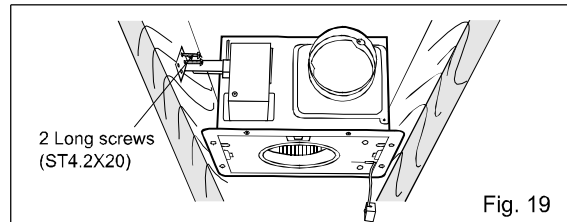
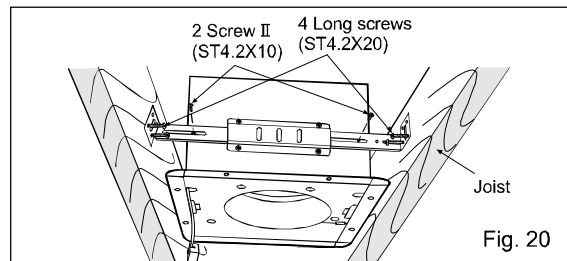

Fig. 19
Fig. 20
4. Secure the suspension bracket to joists by using long screws (ST4.2X20). (Fig. 19, Fig. 20)
5. Secure the suspension bracket to the fan body by using screw II (ST4.2X10). (Fig. 20)